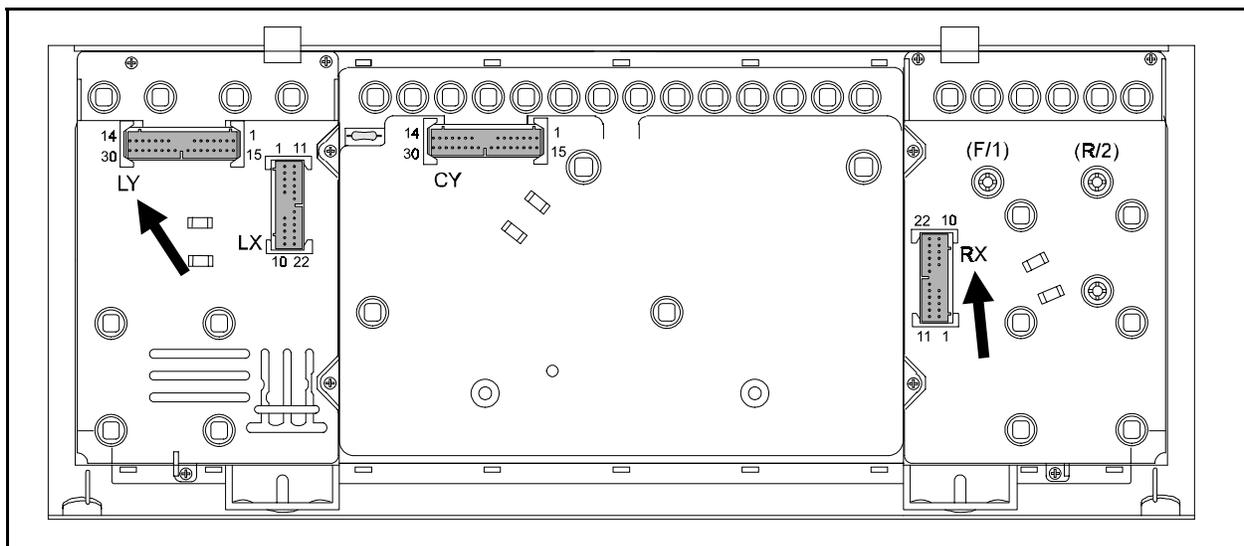

Figure 2 Cluster as seen when pivoted down from the dashboard.
1. Plug in all cluster connectors, turn the ignition key on and verify +5 volts at connector RX-12. See Figure 2 for connector locations.